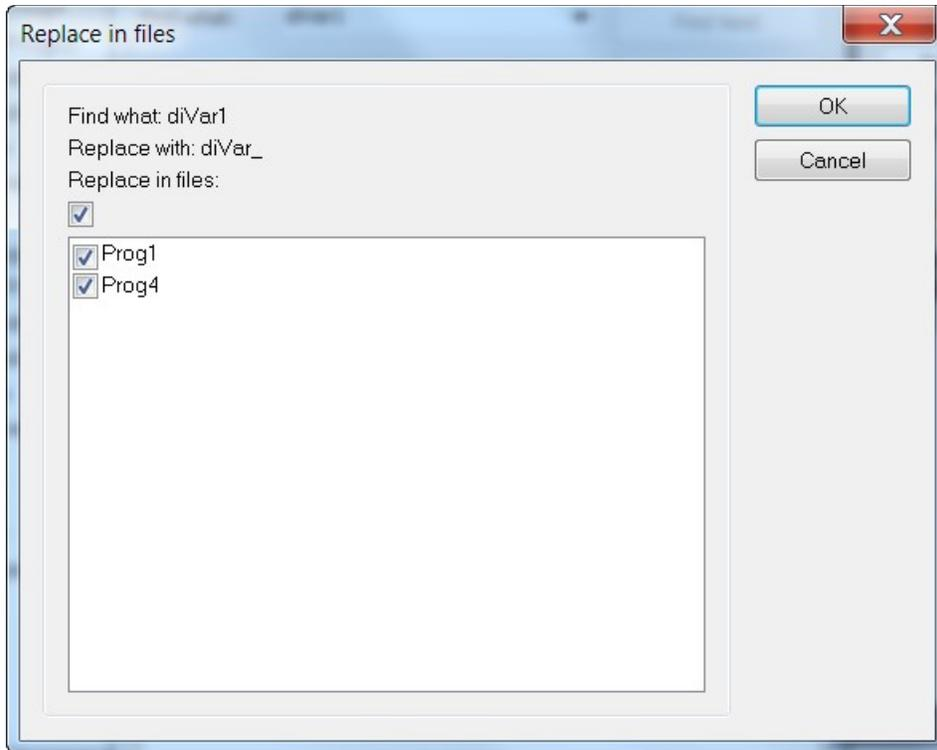

Figure 24: Select the programs where to find or replace a text
- Step 5:** Click *'Replace in Files'* button. A window pops up which allows you to select in which programs of the task to replace the text (Figure 24). Click *'OK'* to replace the text.